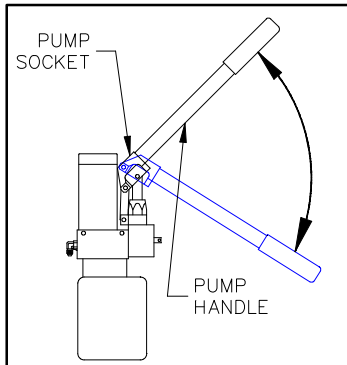
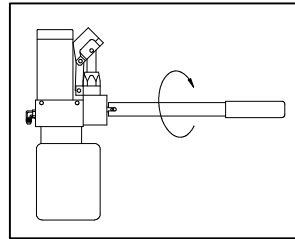

FIGURE 3-19: RAISE STEP-LIFT ABOUT 4"
FIGURE 3-20: CLOSE RELEASE VALVE
- 1) Refer to **Figure 3-19**. Locate manual back-up pump on right side of right column. Insert pump handle into socket on manual pump and pump until step lift is about four inches above stow level. If step-lift does not rise, refer to **Figure 3-20** and be certain release valve is closed.